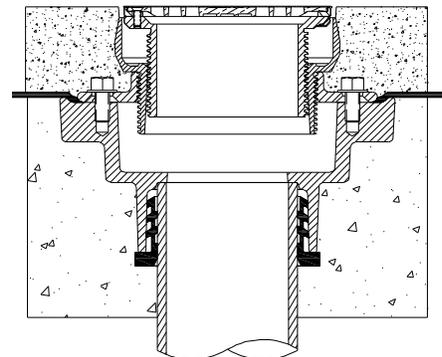

Fig. 12R
- 12. Turn head assembly clockwise until top of strainer is flush with the finish floor. Wipe away excess silicone. Remove protective label once construction is complete. See Fig. 12R